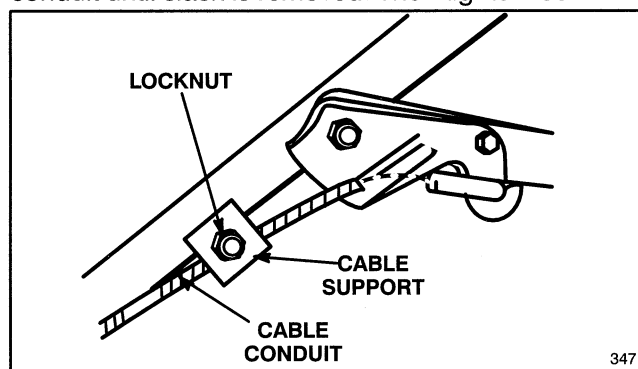

Figure 22
3. **ADJUST CABLE CONDUIT**—Loosen locknut on cable support (Fig. 22). Insert $1/8'' - 3/16''$ object between brake lever and handle. Pull down on cable conduit until slack is removed. Then tighten locknut.